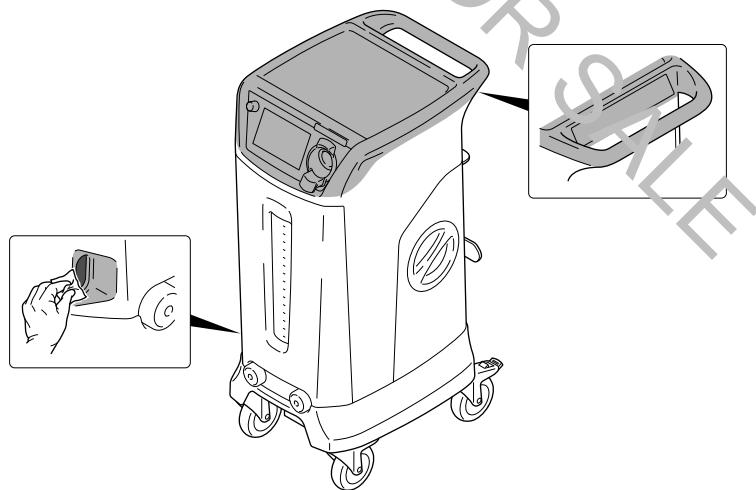

Figure 39 – Wipe Down the Rover
1. Wipe all external surfaces of the rover with a soft, lint-free cloth moistened with a non-abrasive, hospital disinfectant prepared to the manufacturer's instructions. Pay particular attention to highlighted critical areas such as the work surface, handle, main control panel, communication window, and manifold receptacles (Figure 39).